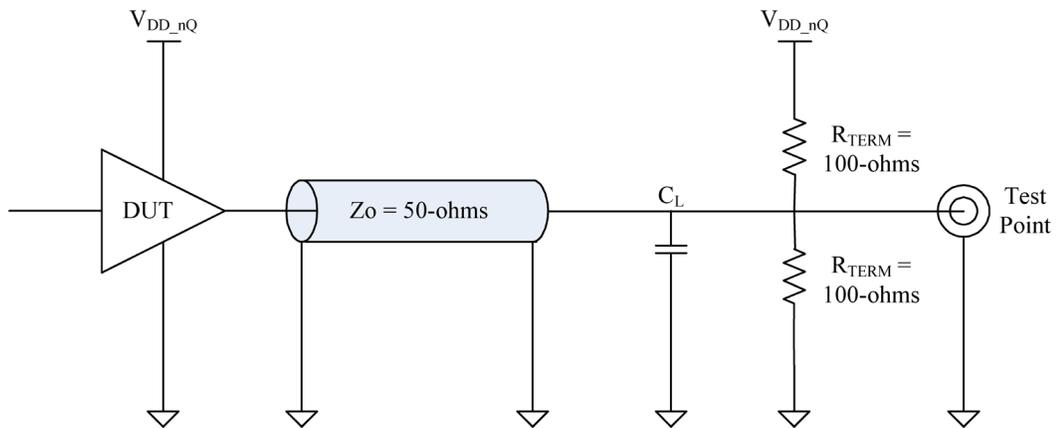

Figure 8B. Thevenin Terminated LVCMOS/LVTTL Test Circuit
- 1) All outputs are equally loaded. See figure 8B.
- 1) When measuring the dynamic supply current, all outputs are disconnected from the equivalent test load defined in figure 8B.